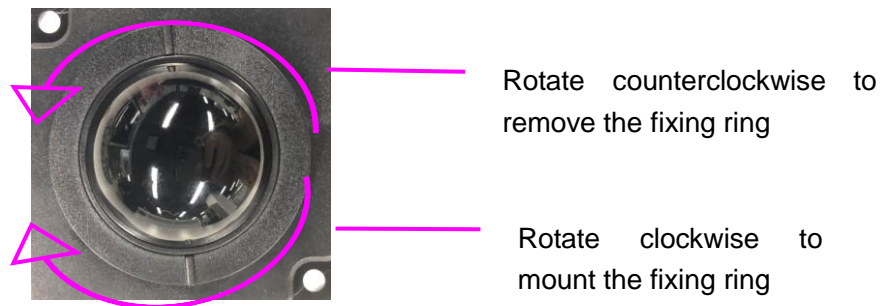

Figure 12-2 Assembling and Disassembling Trackball
2. Remove the trackball as shown in *Figure 12-2*.